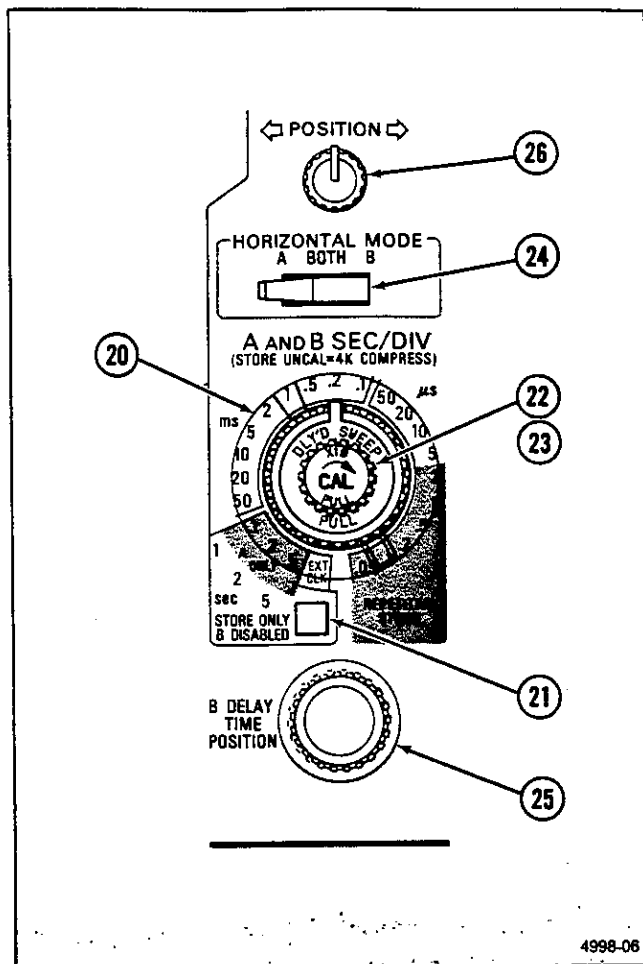

Figure 3-3. Horizontal controls.
Refer to Figure 3-3 for location of items 20 through 26.
- ②0 **SEC/DIV Switches**—Determine the SEC/DIV setting for both the NON STORE sweeps and the STORE mode waveform acquisitions. To obtain calibrated A and B NON STORE sweeps, the Variable SEC/DIV control must be in the CAL detent.